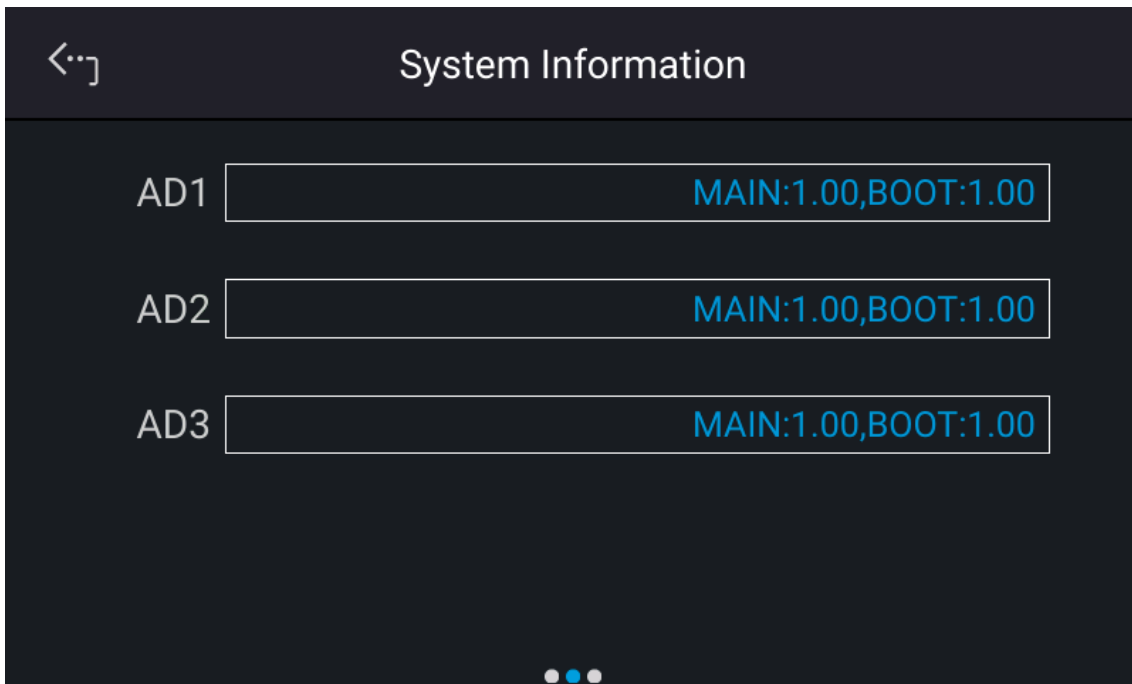

Figure 3-14
- AD1~AD3 : Displays the firmware version no. of front stage module as shown in Figure 3-14.